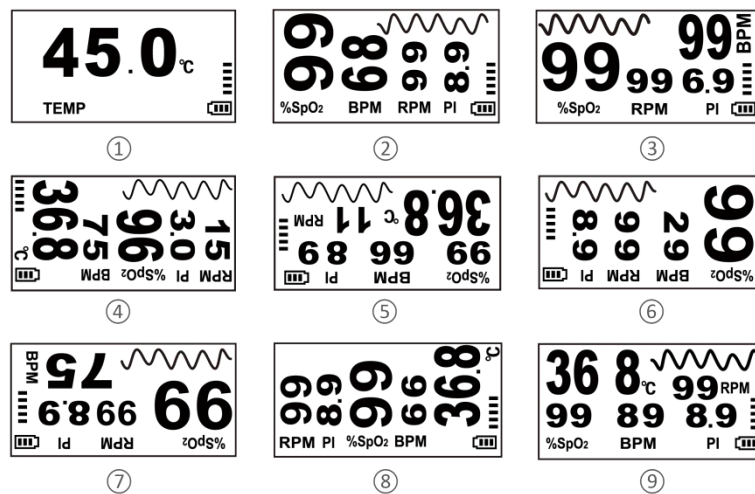

Figure 7
2) There are eight display modes for your choice, See Figure 7. Figure 7.①-Figure 7.⑨ display SpO₂ and pulse rate.